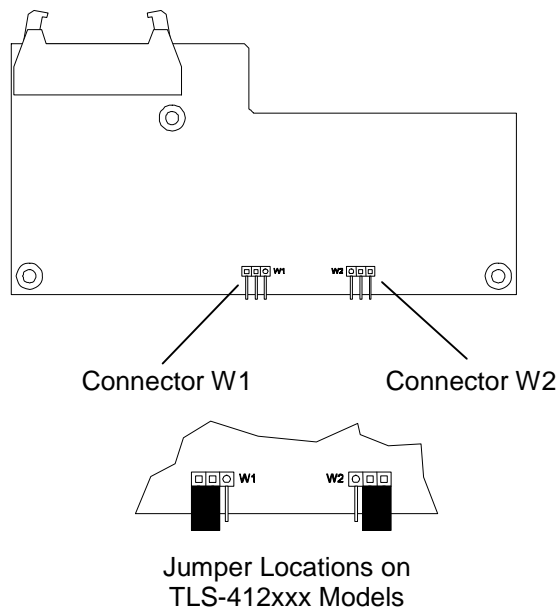

Figure 7-53 Location of Connectors W1 and W2 on Y-Clear Detector PCBA
1. Note the jumpers on connectors W1 and W2 on the Y-Clear Detector PCBA that was removed. Make sure that the jumpers are in the same location on the replacement PCBA before it is installed. See Figure 7-53.